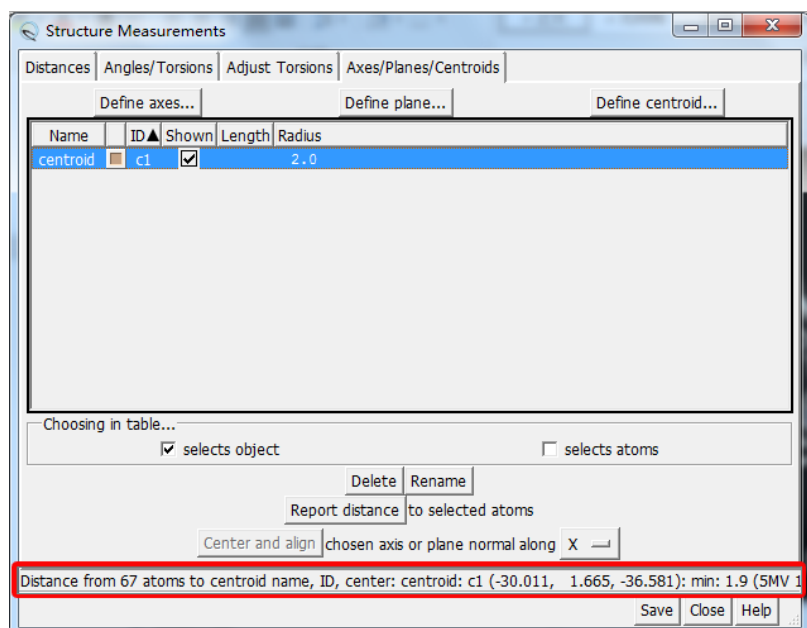

Figure 19. Showing coordinate values of centroid box.
6. Then you can see the center centroid (x, y, z): -30.011, 1.665, -36.581 (see Figure 19):